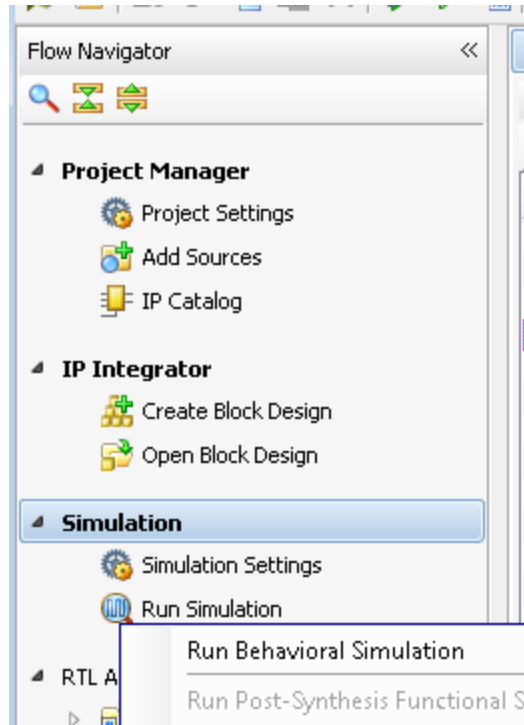

Figure 213: Execute Simulation
10. Click **Run Simulation in the Flow Navigator** (Figure 213).